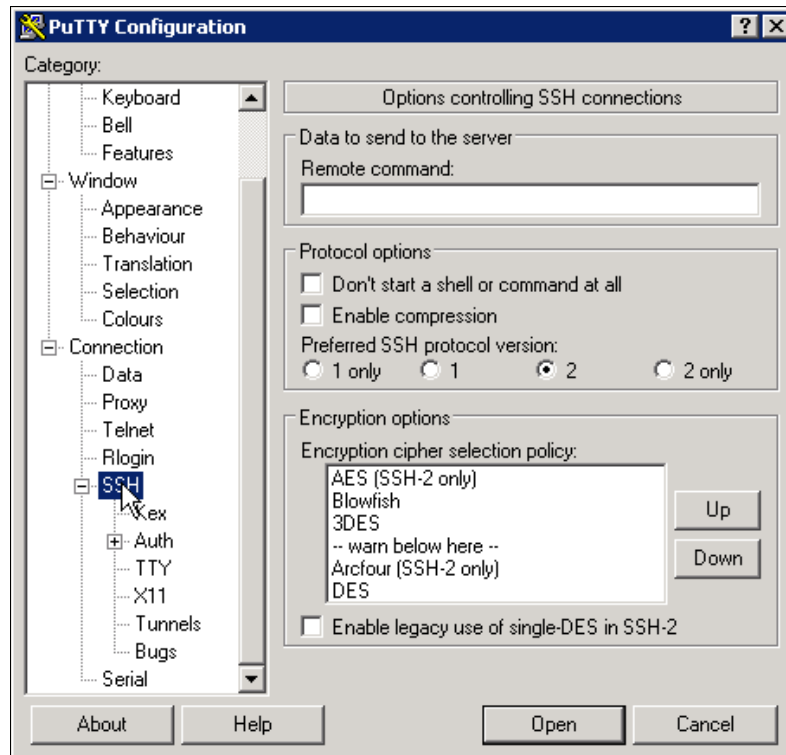

Figure 8-10 SSH subcategory
3. In the Category pane, on the left side of the PuTTY Configuration window (Figure 8-10), click **Connection** → **SSH** to open the PuTTY SSH Configuration window.